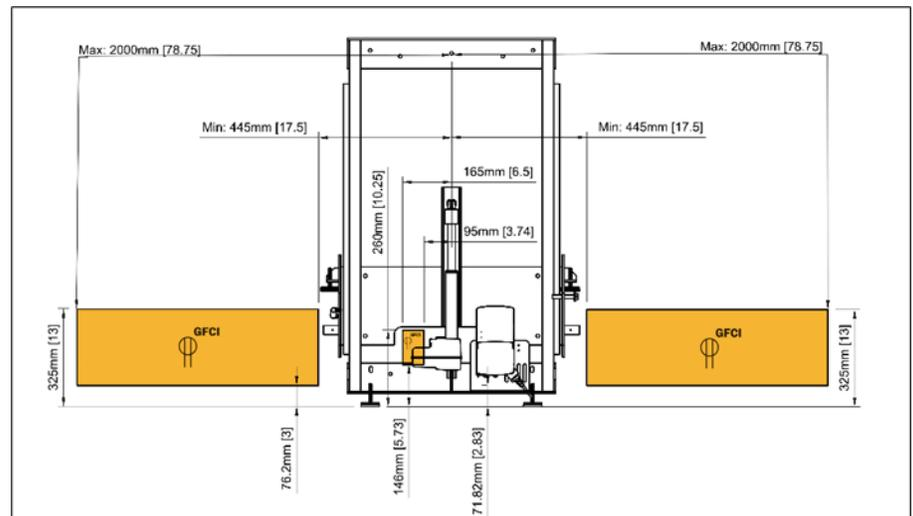

Figure 3- Electrical Locations
- Ensure that a 120V GFCI-protected receptacle is installed within the specified electrical connection zone. For hardwired installations, the hardwire supply must be brought into the designated hardwire access area located behind the cover (refer to Figure 3).